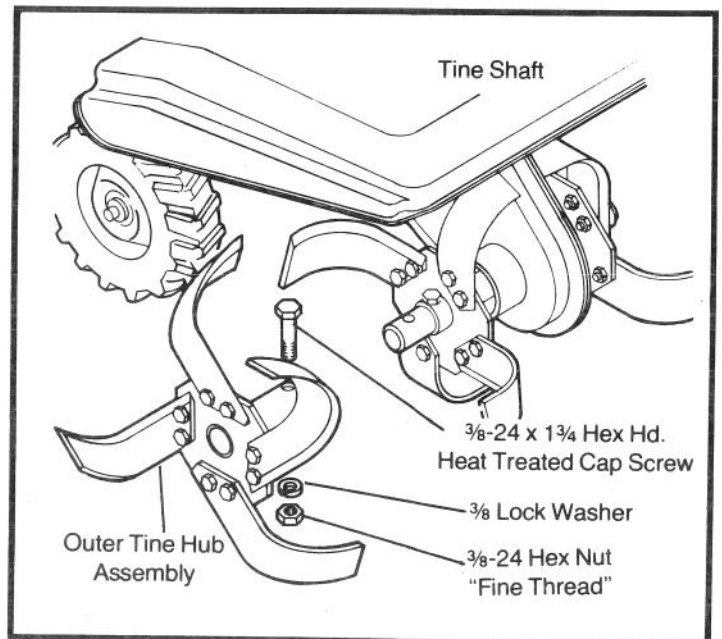

FIGURE 5
6. Reposition the outer tine hub assemblies, to the proper end of tine shaft, Fig. 5. **NOTE:** For shipping purposes, this tiller was shipped with the outer tine hub assemblies on the opposite ends of the shaft.